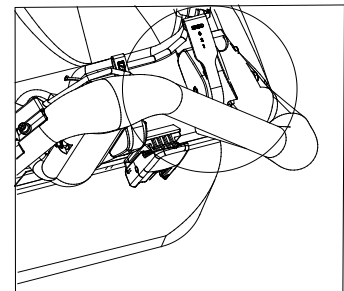

Fig. 14
1. Move shift lever (right side) to correct position (1, 2, or 3) for desired gear. (See Fig. 14)